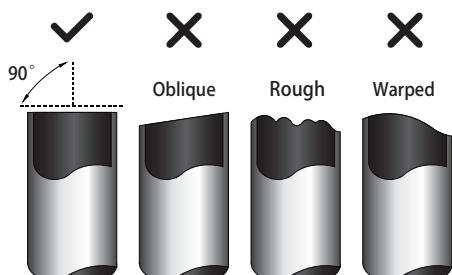

Fig. 7.1
- Make sure that the pipe is cut at a perfect 90° angle. Refer to Fig. 7.1 for examples of bad cuts.